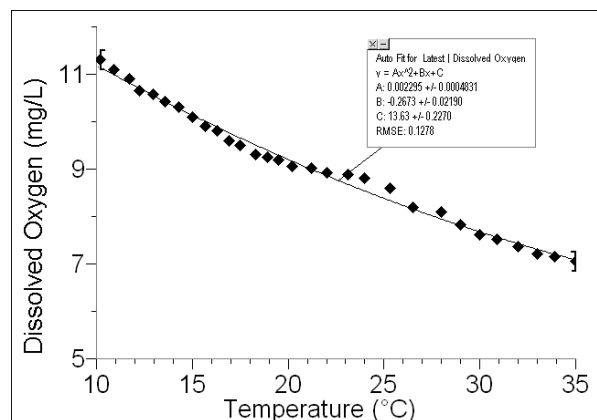

Figure 2: Saturated Dissolved Oxygen vs. Temperature Data
- If, however, the solution was cooled to 10°C *and* continually stirred so it remained saturated by dissolving additional oxygen, the temperature-compensated probe would give a reading of 11.35 mg/L—the value shown in Figure 2. **Note:** Temperature compensation *does not mean* that the reading for a saturated solution will be the same at two different temperatures—the two solutions have different concentrations of dissolved oxygen, and the probe reading should reflect this difference.